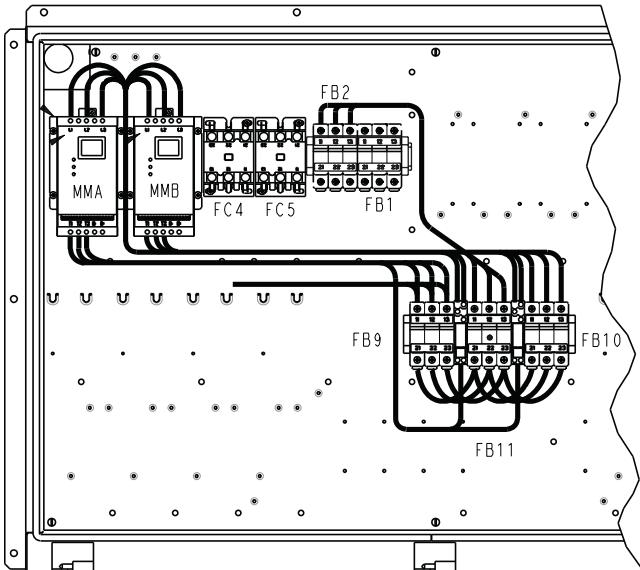

Fig. 23 — Motormaster® V Installation Location — 38APD115-130 Units
3. Mount Motormaster V controller (Item 25) in location where FC5 was mounted, using 4 AL80AU170 screws (Item 9) provided. Repeat for FC2. See Fig. 23.